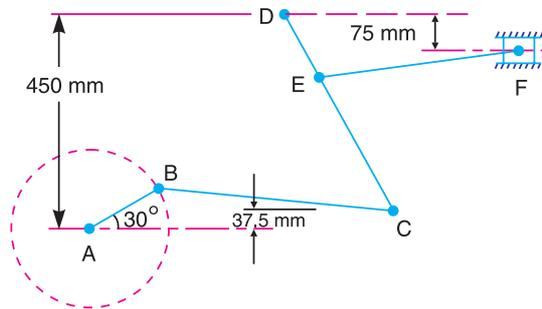

Fig. 7.34
- In a link work, as shown in Fig. 7.34, the crank  $AB$  rotates about  $A$  at a uniform speed of 150 r.p.m. The lever  $DC$  oscillates about the fixed point  $D$ , being connected to  $AB$  by the connecting link  $BC$ . The block  $F$  moves, in horizontal guides being driven by the link  $EF$ , when the crank  $AB$  is at  $30^\circ$ . The dimensions of the various links are :